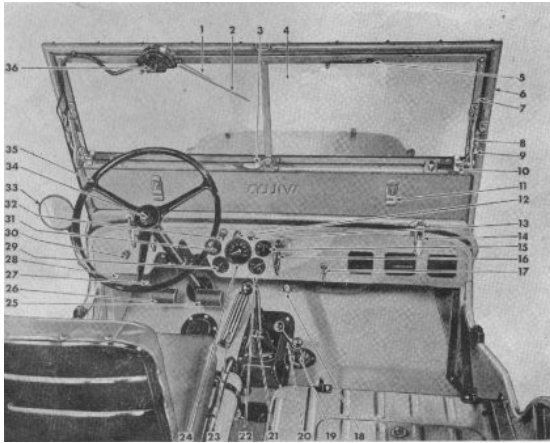

FIG. 1 - VEHICLE CONTROLS
- The position of all controls and switches is shown in Fig. 1.
- Put the transmission gearshift lever No. 21, Fig. 1 in neutral. Place the transfer case low and high shift lever No. 19 in direct gear or in the rear position and disengage the front axle by placing the shift lever No. 29 in the forward position.